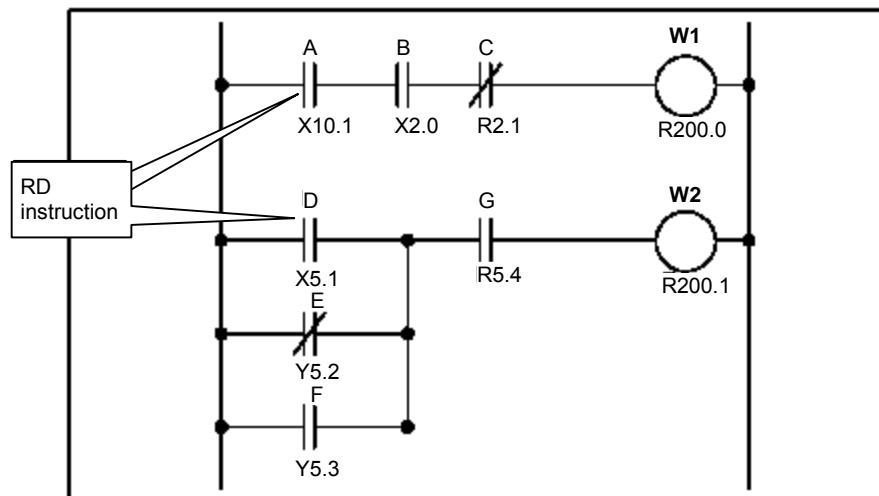

Fig. 4.1.2
- (1) Use this instruction to start coding from contact A (-| | -). For examples of how the RD instruction is used, see the ladder diagram shown in Fig. 4.1.2 and the input example in the mnemonic format given in Table 4.1.2.
- (2) The instruction reads the status (0 or 1) of the signal at the specified address and sets it in the ST0 bit.
- (3) The signal (contact) to be read by the RD instruction may be any signal (contact) that is input as a logical condition of a coil (output).